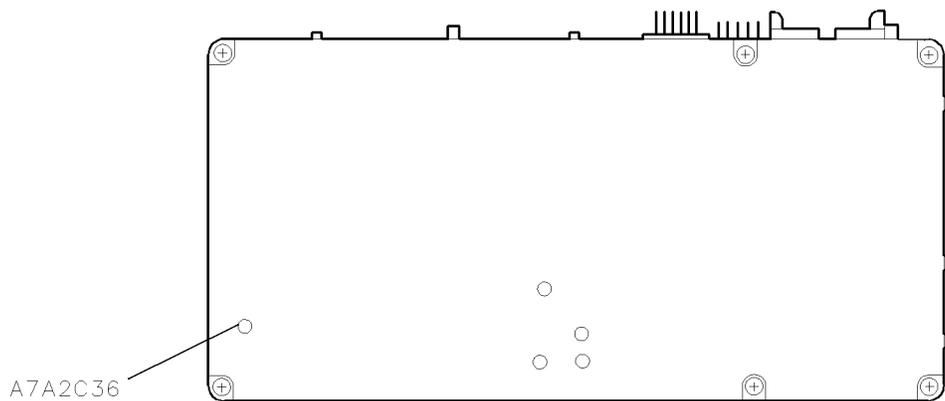

Figure 6-18. Locations for Adjustment 09. FFS Reference Null
3. The program tunes the module's FFS phase-lock loop to 35 MHz and tunes this loop's reference input to 125 kHz. The spectrum analyzer searches for the resulting 125 kHz sideband on the FFS output. Adjust A7A2 FFS analog (C36) to minimize the sideband. See Figure 6-18 for the location of C36.